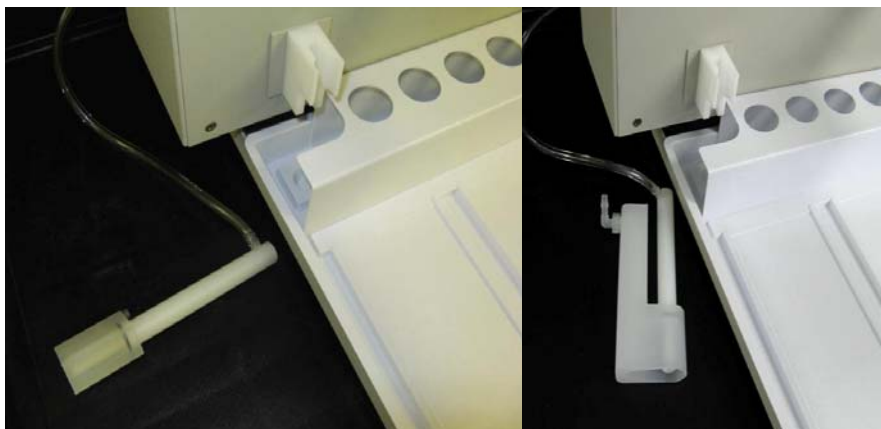

Figure 1-5. View of rinse stations removed from the front cover.
3. After the Z-drive assembly is removed, then remove the rinse station. See Figure 1-4. Turn the rinse station $\frac{1}{4}$ turn counter-clockwise while pulling up. Also, the tubing located at the bottom of rinse station will have to be removed or moved aside. See Figure 1-5.
4. Some Auto Samplers may have a different rinse station, although they both connect the same. See figure 1-5.